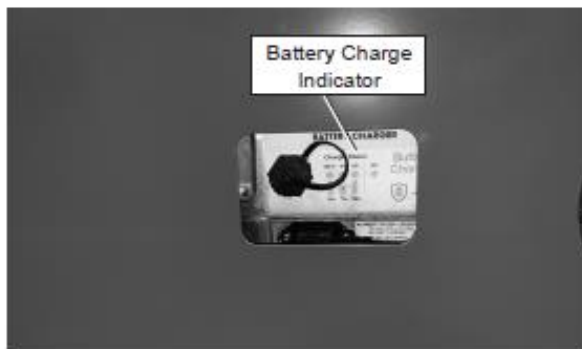

Figure 8.3 – Battery Disconnect Panel
4. After a short delay, visually inspect the battery charge indicator for proper charging rate (refer to Figure 8.3).